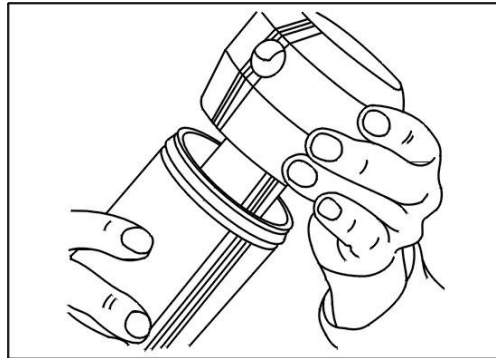

Figure 10 Bowl Removal
2. Unscrew and remove the Bowl. See Figure 10.